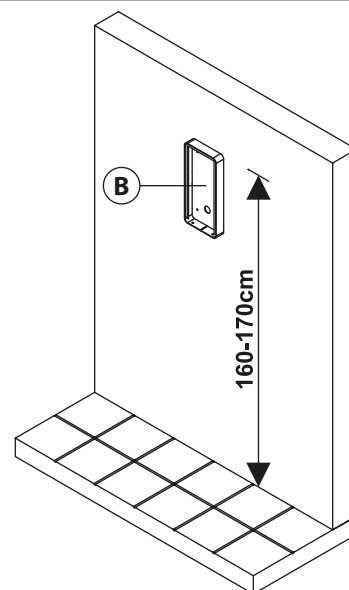

Fig. 2
2. Place the surface box (B) against the wall (165-170cm between the top of the box and the floor lever) and mark the 4 fixing holes for the wall plugs and the hole for the cables (**Fig. 2**);